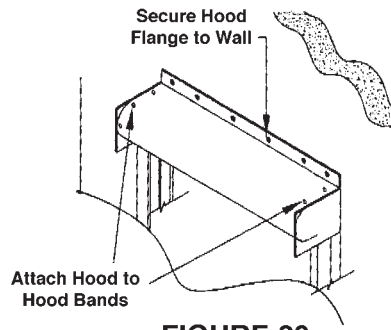

FIGURE 20
- Attach the hood to the hoodband on headplate bracket by drilling a 7/32" hole through the hood and band. Then secure hood with 1/4" tapping screw, maximum length 7/16". Longer screws can prevent door closing. Use four screws per bracket. See Figure 20.
- See Figure 20.